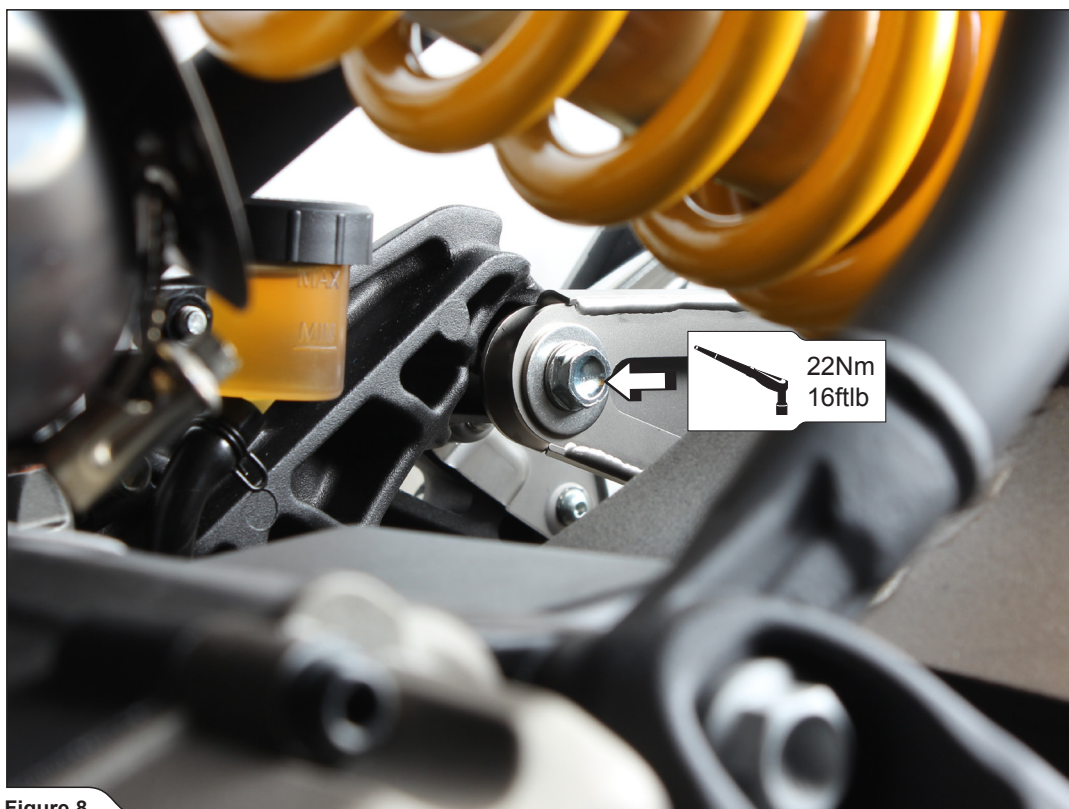

Figure 8
- Align the muffler in respect to the motorcycle and tighten the muffler's bracket bolt, Akrapovič clamp and stock clamp to the specified torque (**Figure 8, 9, 10**).